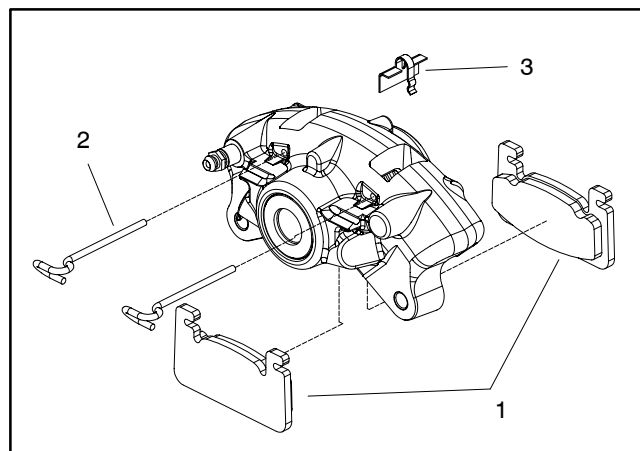

Figure 9
5. Remove two (2) cap screws and lock washers that secure the brake caliper to the spindle.
7. If necessary, remove brake pads from caliper (Fig. 9):
1. If brake pads were removed from caliper, install pads (Fig. 9):
- C. Secure pads into caliper with two (2) pins. Make sure that pins snap into caliper slots. Install anti-rattle clip to caliper, pin and brake pads.
3. Align caliper mounting holes with spindle. Secure caliper with two (2) cap screws and lock washers.